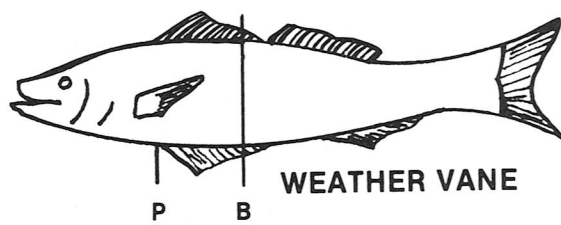

FIG. 2.4
A vane is a rotating device that shows the direction of the wind, and the word stems from an Old English word for *banner*. There are two elements in a weathervane: the body and the pivot. To locate the pivot, first find the center of balance (B) of the body, then locate the pivot point (P) forward of B (Fig. 2.4). The proper distance is a matter of judgment. The weathervane should move easily with wind changes and always point into the wind.